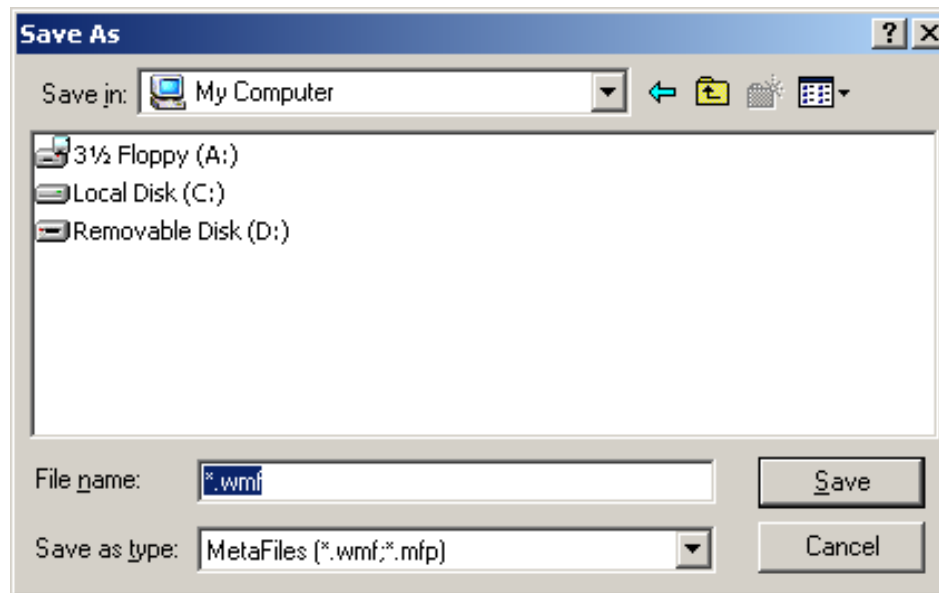

Figure 2.16 File export window.
1. Click **Browse**. The *Save As* window will then appear as in Figure 2.16